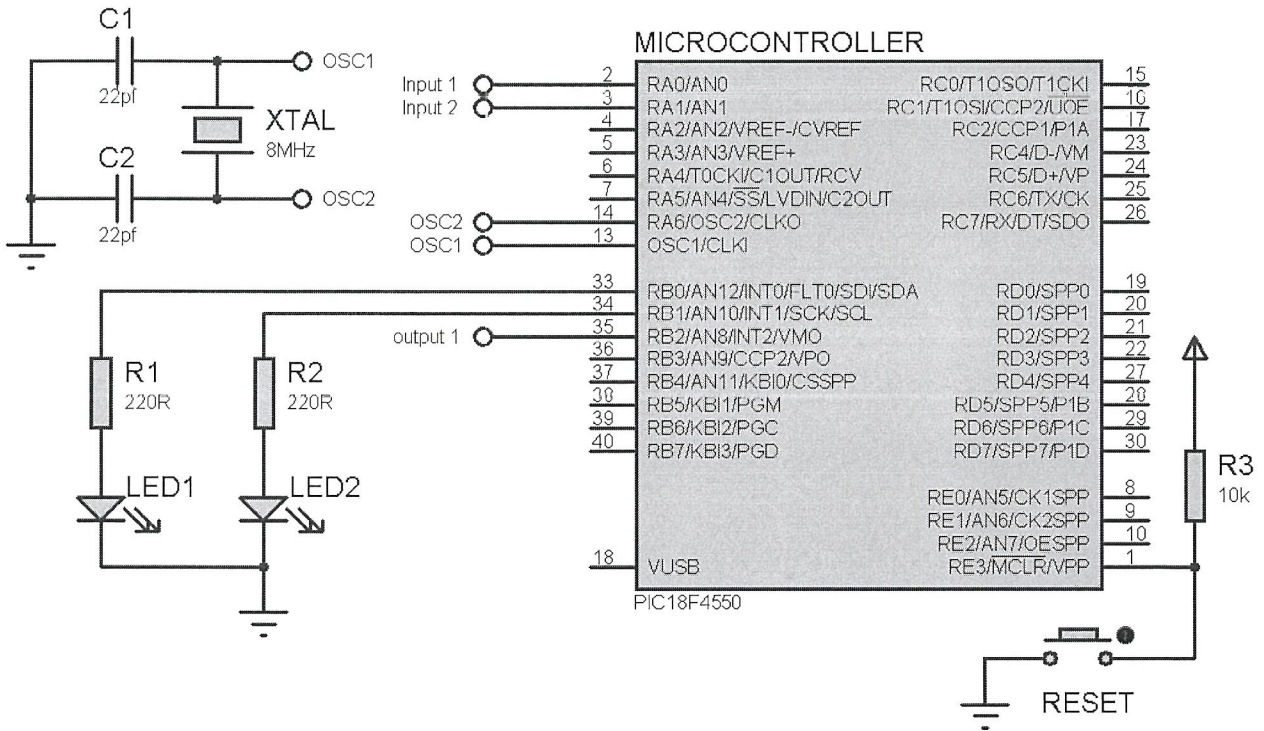

Figure Q2
- Q2** **Figure Q2** shows a simple application using PIC 18F4550 to read two analogs input via RA0 and RA1 pins. There are two LEDs connected to RB0 and RB1 respectively. RB2 is connected to another output called output 1. The PIC is clocked at 8MHz.
- (a) Determine and explain the initialization value of ADCON0 to implement the circuit in **Figure Q2**. Suggest the best value for ADCON1 and ADCON2. (5 marks)
- (d) Referring to **Figure Q2**, write a simple C program to light the LED1 when the analog value of RA0 is greater than RA1 and light the LED2 when the analog value of RA1 is greater than RA0. (9 marks)